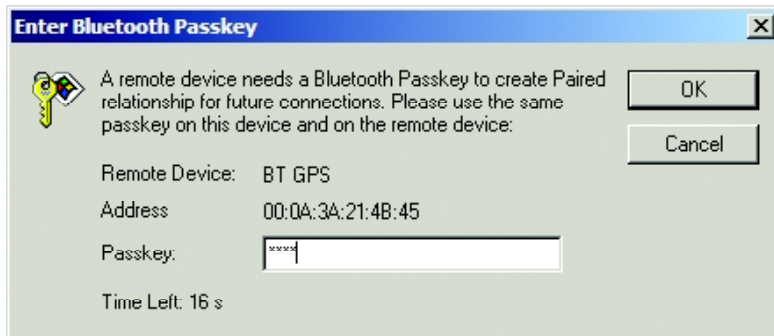

Figure 7 : Putting the Passkey for pairing the ZX-BLUETOOTH (BT GPS) with computer
6. The Enter Bluetooth Passkey dialog box will appear. Put the code "0000" into the Passkey box. The characters would be display "*" following the figure 7.